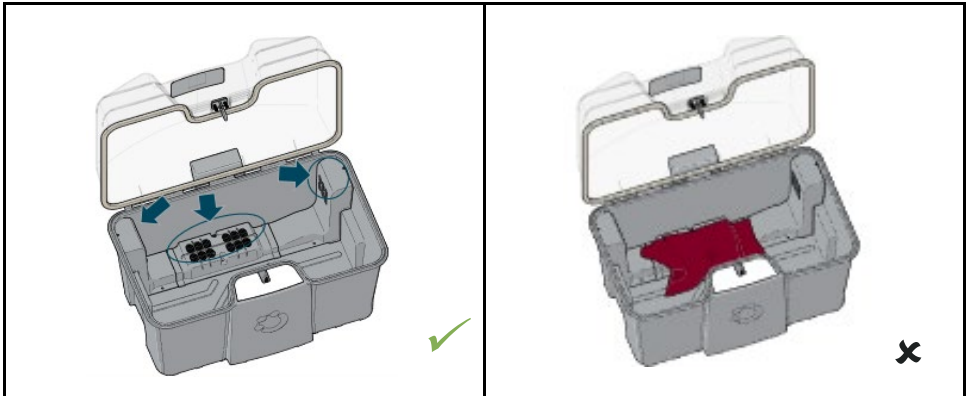

Figure 1 NUTROZ DEVICE with all ventilation accessible (left), and with a blockage which will restrict airflow (right).
- i. **FUNCTION OF THE NUTROZ DEVICE.** Ensure objects are placed in the NUTROZ device do not obstruct the ventilation, as shown in Figure 1.